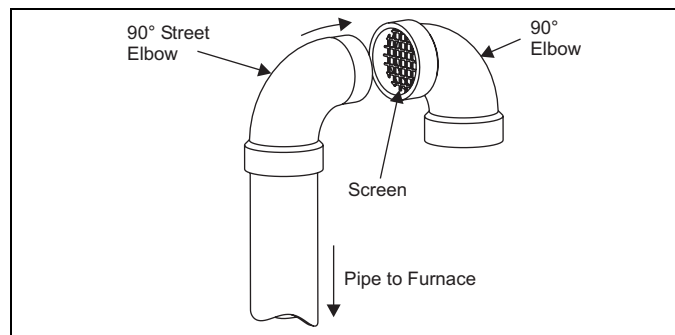

FIGURE 25: Elbow Assembly
7. Prepare elbow assembly. See Figure 25. Insert screen into elbow socket. Secure in place with street elbow (or nipple).